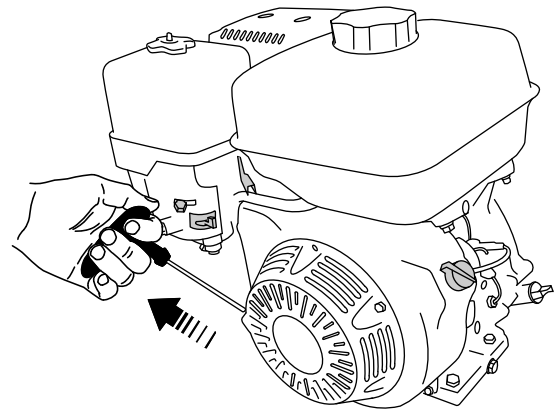

Figure 17
5. Pull the recoil-start handle lightly until you feel resistance, then pull the handle briskly (Figure 17).